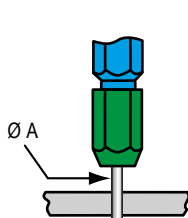

Fig. 1
**"GO"** - Insert the end (green) of the gauge as shown (Fig. 1).